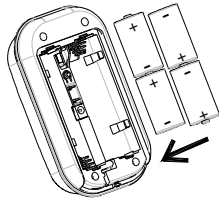

FIGURE 3
2. Insert four LR14 1.5V size alkaline batteries to the battery compartment, ensuring correct polarity is put (FIGURE 3).